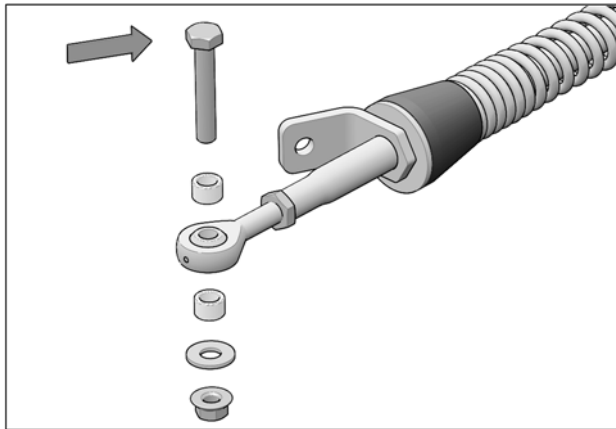

Fig. 13
3. Remove bolt, washer and bushings from front stabilizing rod end. See Fig. 13